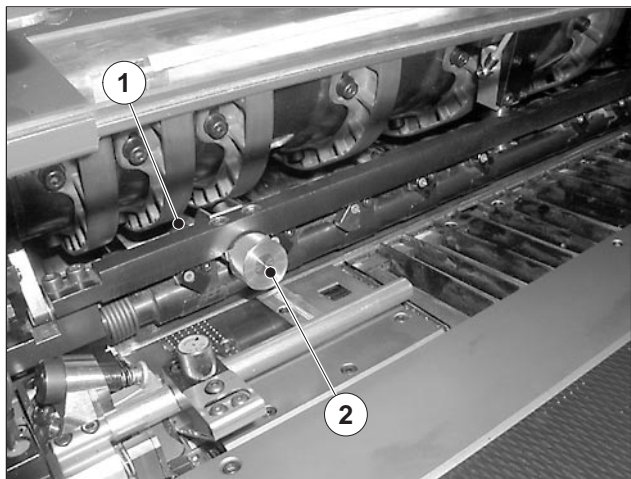

Fig. 69 Adjusting the separator rolls
The separator rolls (Fig. 69/1) guide the sheets under the cover guides. They ensure a safe infeed into the press with few marks.
2. Turn the knurled head screw (Fig. 69/2) to adjust the height of the separator rolls. The strip of paper should run tightly between separator roll and feed table, without getting pinched.